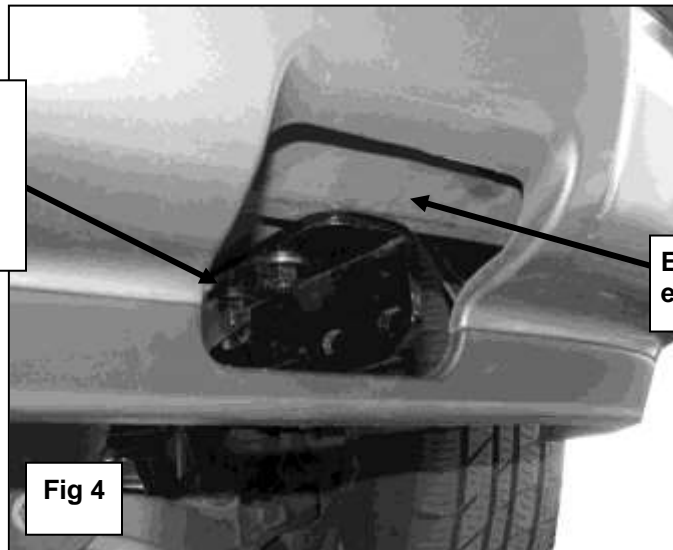

Fig 4
the driver side Mounting Bracket in position with the slotted end toward the rear. Secure the Mounting Bracket to the U-Bolt with (2) 10mm x 27mm OD x 3 mm Flat Washers, (2) 10mm Lock Washers and (2) 10mm Hex Nuts, **(Figure 4)**. Snug but do not tighten the hardware.